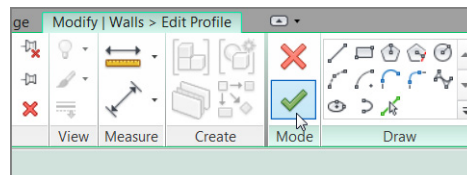
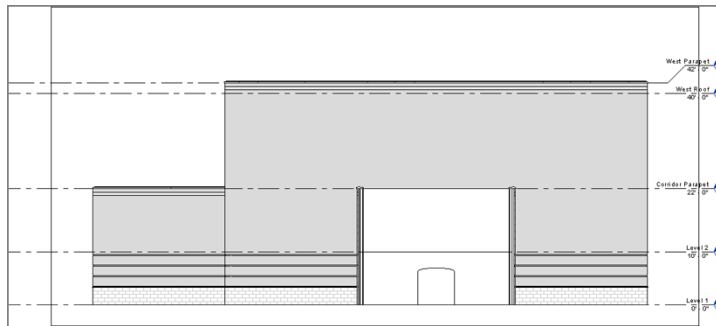

FIGURE 3.49: Clicking Finish Edit Mode
FIGURE 3.50: The finished wall profile
15. On the Wall panel of the Modify | Walls > Edit Profile tab, click Finish Edit Mode, as shown in Figure 3.49. Your finished wall profile should look like Figure 3.50.
1. Select the internal (white) wall with the arched opening, as shown previously in Figure 3.50.